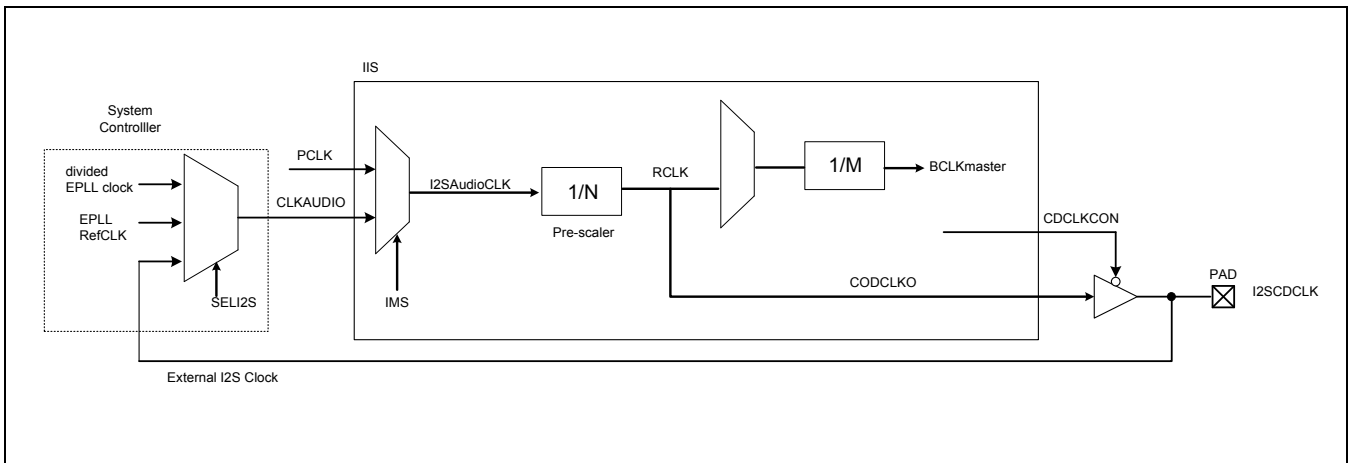

Figure 25-2. IIS Clock Control Block Diagram
Figure 25-2 shows the route of the root clock with internal master(PCLK, divided EPLL clock , EPLLRefClock) or external master(External I2S clock) mode setting in IIS clock control block and system controller. Note that RCLK indicates root clock and this clock can be supplied to external IIS codec chip at internal master mode and slave mode.(when CDCLKCON bit of IISMOD register is 1) At slave mode RCLK doesn't affect to I2SSCLK and I2SLRCLK, but for correct I2S functioning setting RFS, BFS are needed.
2. Now then, you choose clock source. S3C2451 has four clock sources. Those are PCLK, divided EPLL clock EPLLRefCLK and external codec. If you want to know more detail, refer Figure 25-2.